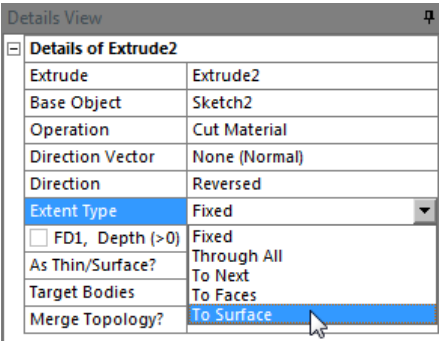

Figure 3-108 Selecting the **To Surface** option from the **Extent Type** drop-down list in the **Details View** window
13. Select the **To Surface** option from the **Extent Type** drop-down list, refer to Figure 3-108; the **Target Faces** selection box is added in the **Details View** window.